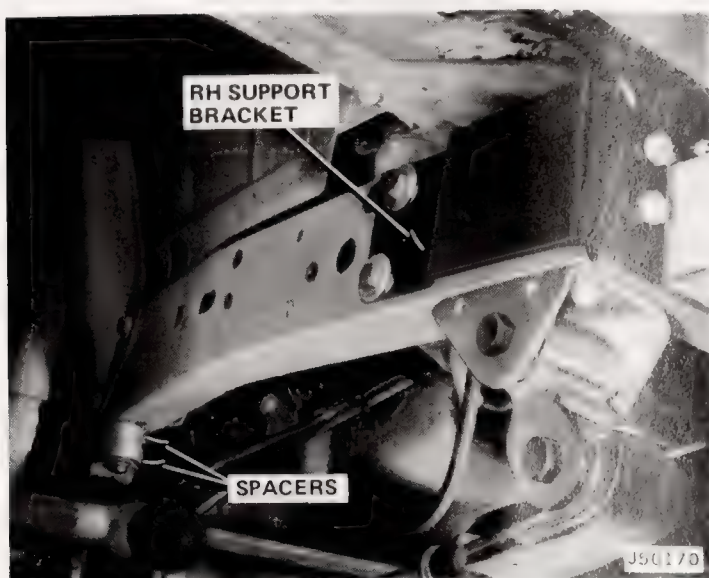

Fig. 5-11 Right Hand Mounting and Spacers—Cherokee-Truck
spacers between each pad and vehicle frame using 5/16-inch diameter by 1-1/2-inch long bolts and lockwashers (fig. 5-11). Tighten securely.
(6) Attach RH support bracket to vehicle frame with 7/16-inch diameter by 3-1/2-inch long bolts, flat washers, lockwashers, and locknuts (fig. 5-11).
(7) Tighten all bolts and nuts securely.